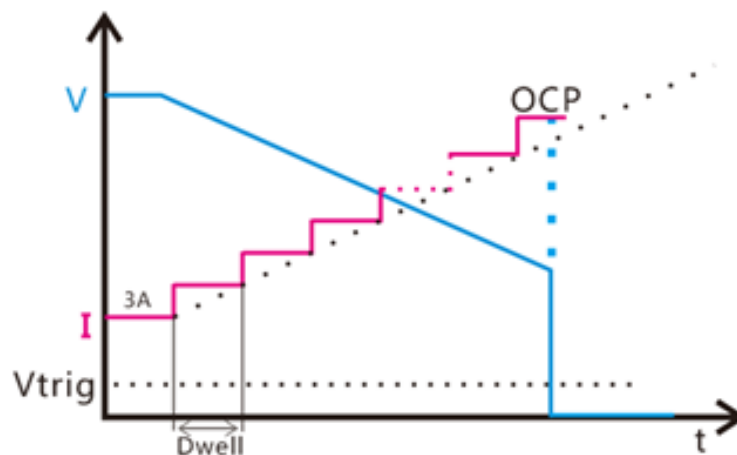

Figure 3.9 OCP loading
3. The E-load starts loading from 3A and stops at 6A in 100 steps with a step value 0.03A. The delay of each step is 0.01S. When the power supply voltage is less than the 1V trigger voltage, the corresponding current value is the OCP current value, and it is judged whether the OCP current value is within the upper and lower limits of the current. The test waveform is shown in Figure 3.9